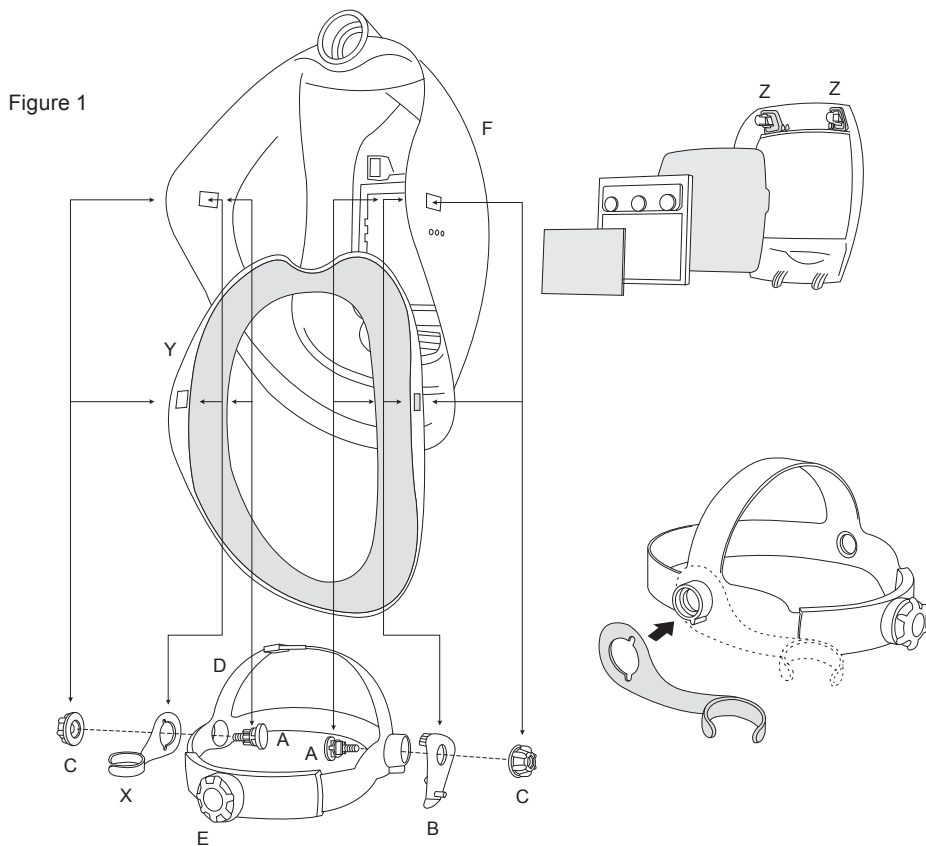

Figure 1
Hose holder (X) needs to be fixed onto the headgear (D) between the headgear (D) and the nut (C), as shown in figure 1. The hose holder is designed in a way to allow use on either side of the headgear, depending on the type of Clean-air power unit.